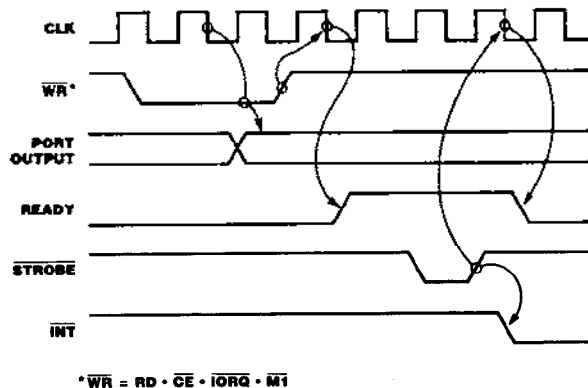

Figure 14. Mode 0 Output Timing
**Output Mode (Mode 0).** An output cycle (Figure 14) is always started by the execution of an output instruction by the CPU. The  $\overline{WR}^*$  pulse from the CPU latches the data from the CPU data bus into the selected port's output register. The  $\overline{WR}^*$  pulse sets the Ready flag after a Low-going edge of CLK, indicating data is available. Ready stays active until the positive edge of the strobe line is received, indicating that data was taken by the peripheral. The positive edge of the strobe pulse generates an INT if the interrupt enable flip-flop has been set and if this device has the highest priority.